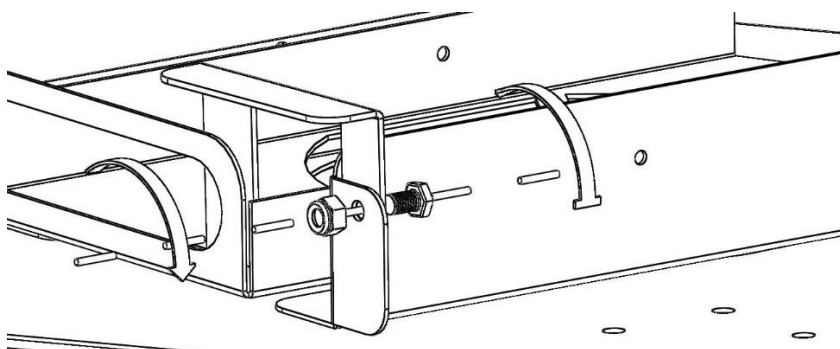

Fig. 2.7
Use the M6 screw and the self-locking nut (NM6S) to attach the locking hook (ZB) to the floor heater (PO) as shown in Figure 2.7.